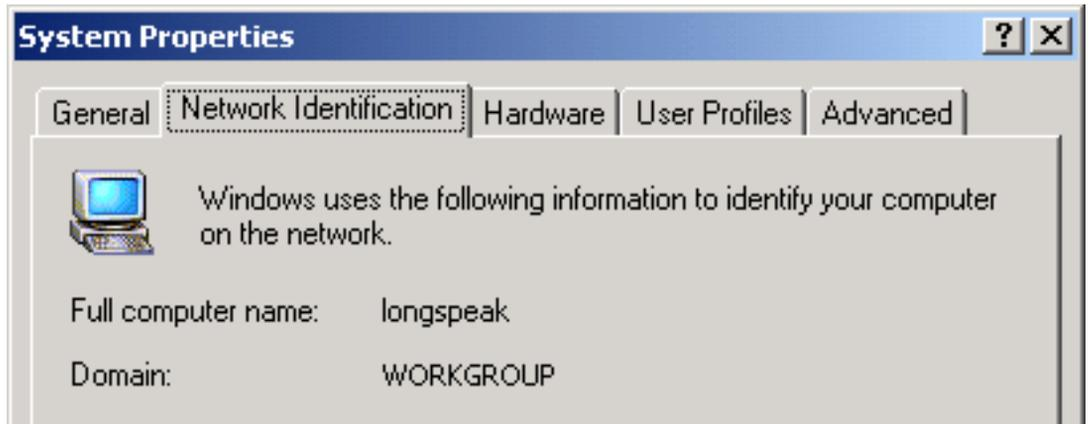

Figure 2-2: Locating computer name on Windows 2000
In the above URL, <yourserver> is the network name of the computer you are trying to access. If you are unsure of the name of the computer, locate the name in System Properties (see Figure 2-2). For example, if your computer name is longspeak, type the following:
- d. Your computer name is shown along with your Workgroup, as shown in Figure 2-2.